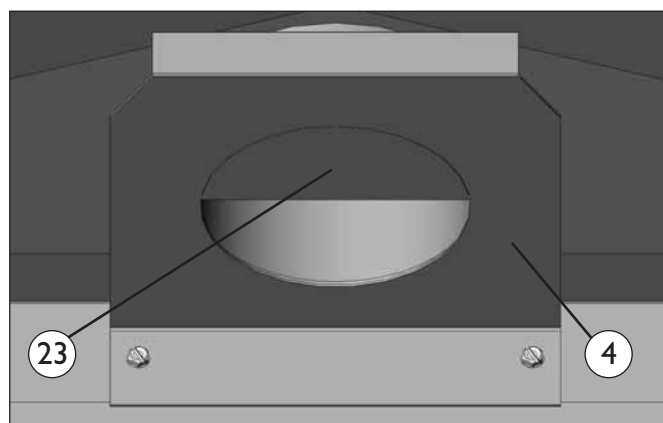

Fig. 18b
1. **Outlet connector** (fig. 18b and 18c)